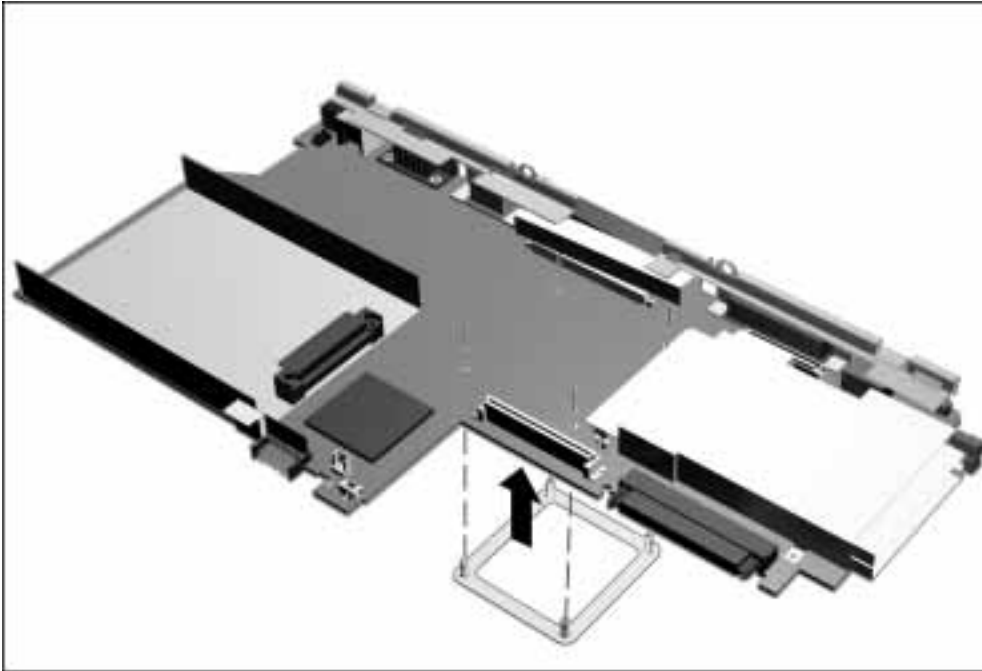

Figure 5-44. *Installing the Processor Attach Bracket*
1. Insert and hold the processor attach bracket in place on the bottom of the system board (Figure 5-44).